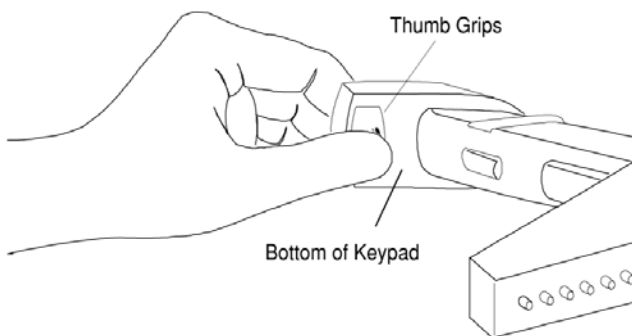

Figure F.2.1a: Removing Battery Case
- 1. Remove battery case.** Position your thumb over the thumb grips (see *Figure F.2.1a*) and brace your fingers against the front of the keypad. Apply firm pressure to the panel with the thumb grips to release the latch.